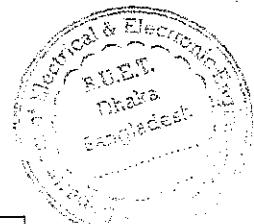

Fig. 2
1. Measure resistance accurately using multimeter. Construct the circuit as shown in Fig. 2. Vary input voltage (V_{dc}) and measure V_D , V_R for values of $V_D=0.1V, 0.2V, 0.3V, 0.4V, 0.5V, 0.6V, 0.7V$ and so on. Obtain maximum value of V_D without increasing V_{dc} beyond 25 V (Note that $I_D=V_R/R$).